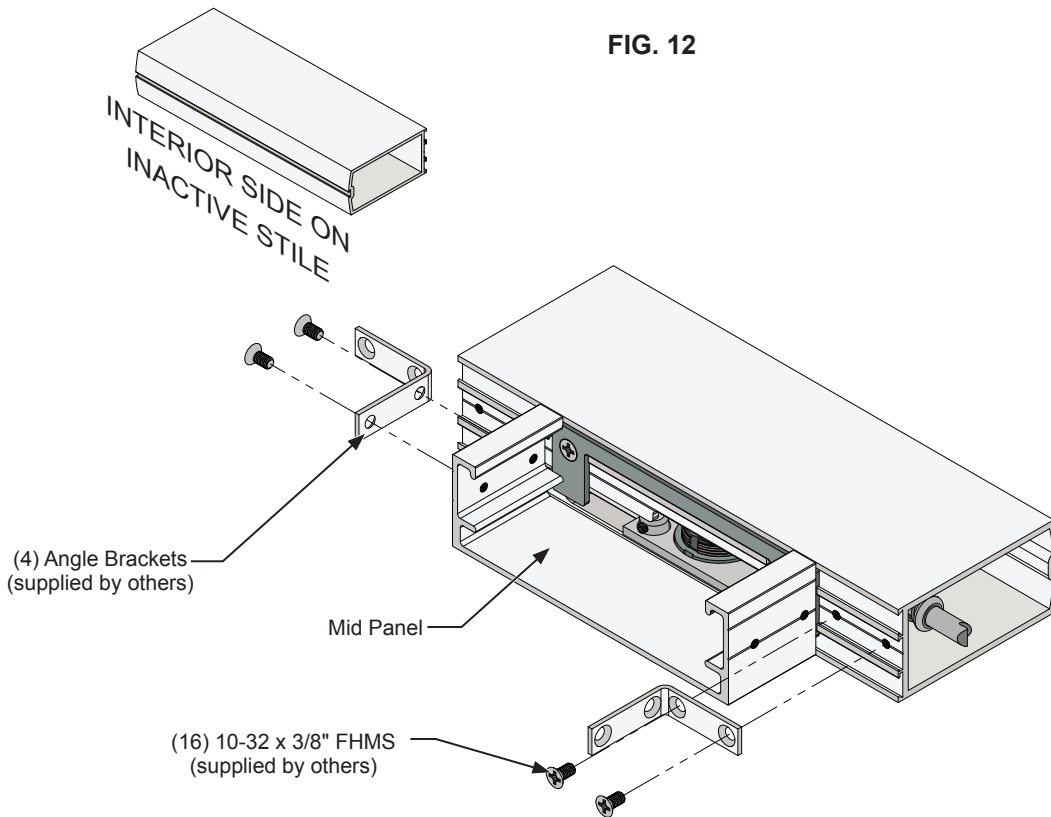

FIG. 13
2. Attach the Mid Panel to the door Stiles with (4) angle brackets (supplied by others) and (16) 10-32 x 3/8" Flat Head Machine Screws (supplied by others). (Fig. 13)